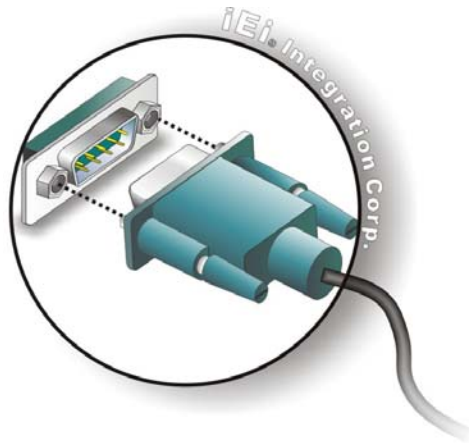

Figure 3-44: RS-422/485 Serial Device Connector
Step 2: Insert the serial connector. Insert the DB-9 connector of a serial device into the DB-9 connector on the external peripheral interface. See **Figure 3-44**